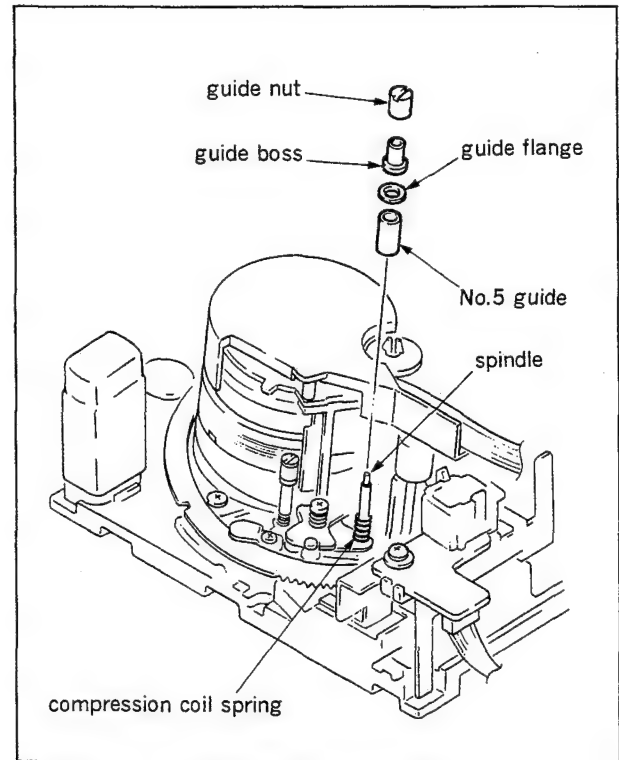

Fig. 4-13-2 No.5 guide replacement
1. No.5 guide block component parts removal (Fig.4-13-2)